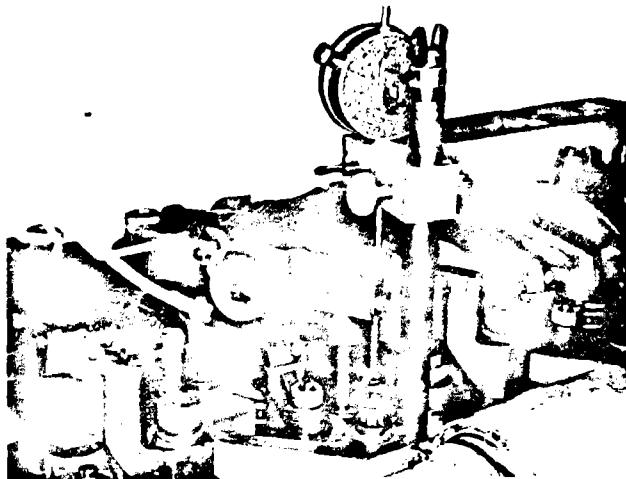

Fig. 2-53, (K114130). Dial indicator in place — extension in contact with plunger — KT(A)-1150
**Note:** The injector and valves on any one (1) cylinder can not be set at the same valve set position. Example: If the rocker levers on No. 3 cylinder are free (valves closed) the injector plunger travel on No. 6 cylinder is to be adjusted. Any valve set position may be used as a starting point. See Table 2-17.
2. Install 3375004 Dial Indicator Assembly to the rocker housing, extension (3375005) must go through the opening in the Jacobs Brake housing and contact the injector plunger top, Fig. 2-53.
3. Screw the injector lever adjusting screw down until the plunger is bottomed in the cup, back off approximately 1/2 turn then bottom again, set the dial indicator at zero (0).